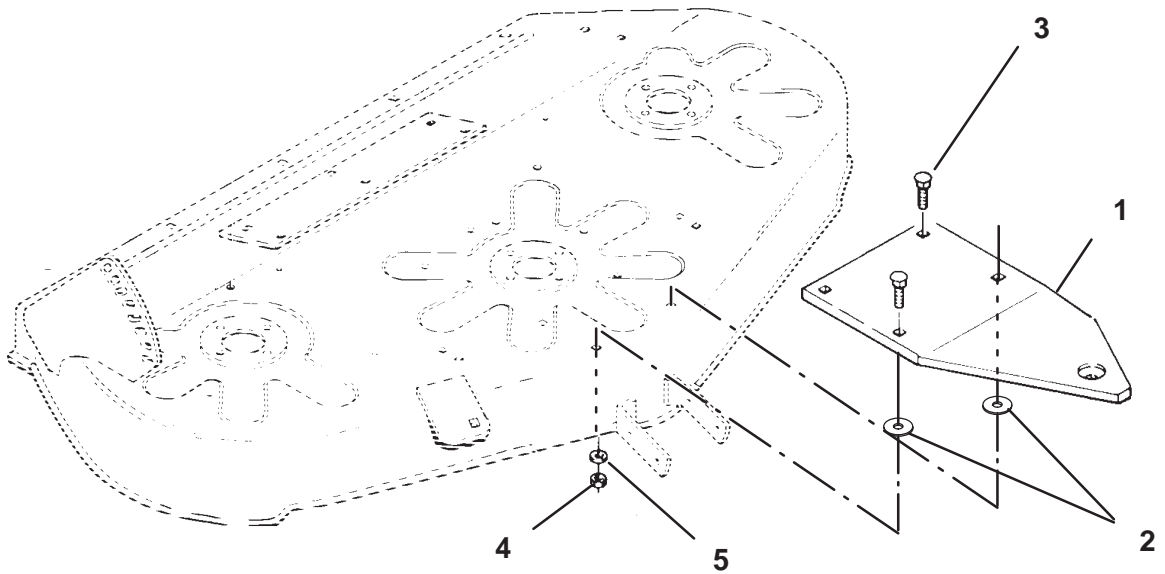

Figure 2
- 2 Remove front belt tightener plate from mower (Fig. 2).
- 5 Use spacer washers at front holes when mounting front plate over reinforcing plate (Fig. 2).